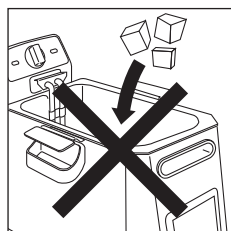

fig. 4
- If lumps of fat are used, cut the lumps into pieces and melt them in another container; then pour the liquefied fat into the deep fryer bowl. Never melt the fat in the basket or on the deep fryer heating element (see Fig. 4).